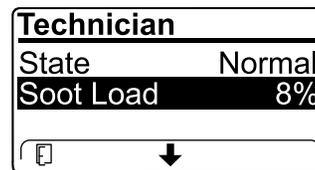

Figure 63
- View the soot load which is measured as the percentage of soot in the DPF (Figure 63); refer to the soot-load table.